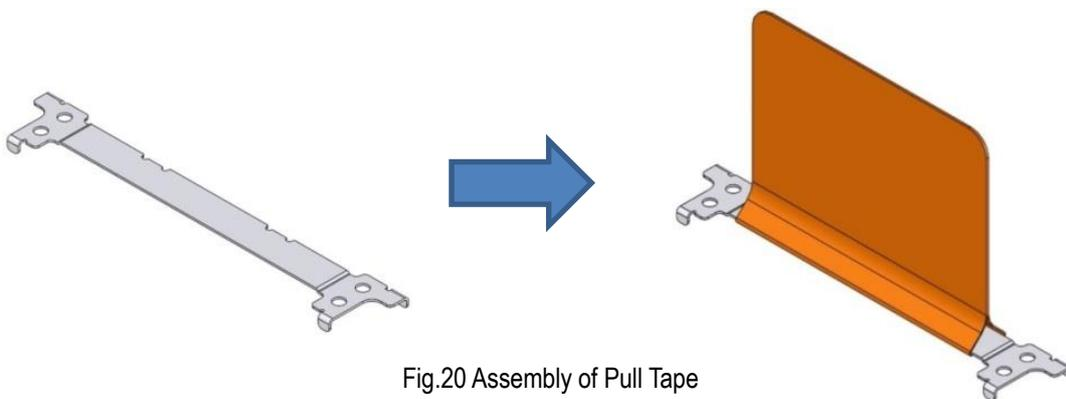

Fig.20 Assembly of Pull Tape
The maximum allowable solder height (solder amount) is shown in Fig. 20.
① Tape pull tape around pull taper holder as shown in Figure 20.